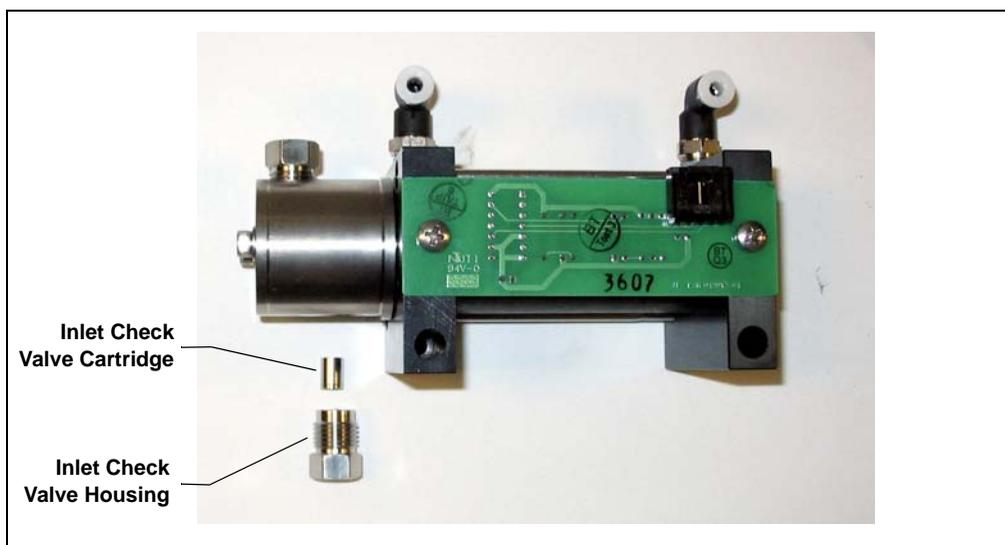

Figure 5-6. Disassembled Dionex ASE 350 Inlet Check Valve
1. Use a 1/2-inch open-end wrench to loosen the *inlet* check valve housing. Remove the housing, and then remove the check valve cartridge from the housing (see Figure 5-6).